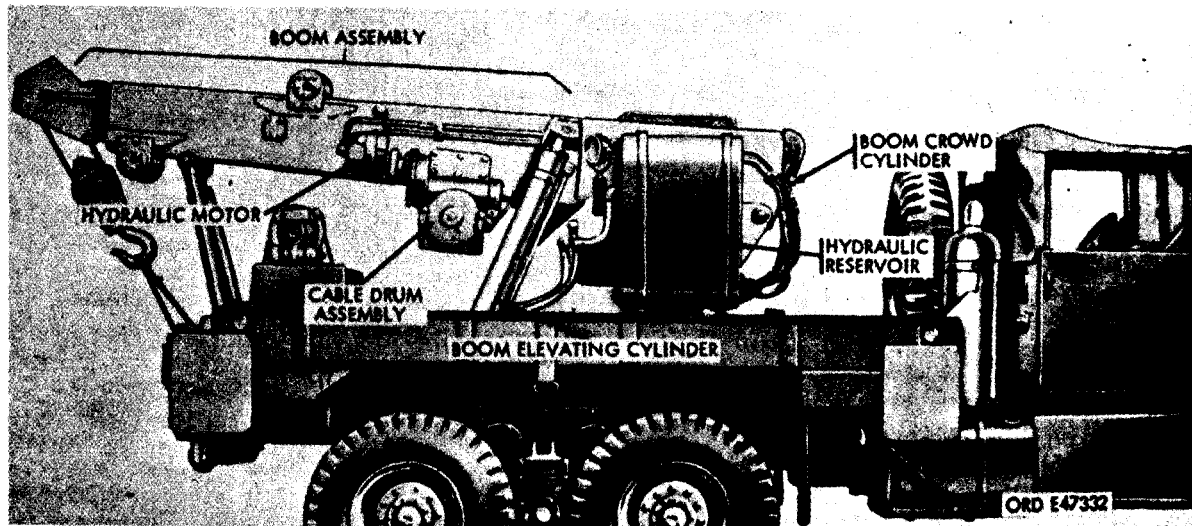

Figure 543. Crane and body assembly
e. Boom Assembly. The boom assembly (fig. 543) consists of the inner boom and outer boom which are telescoping tubular steel members having a rectangular shaped cross section, held together by the boom crowd cylinder. The rear end of the outer boom is pivoted on a pin which permits raising and lowering the front end of the boom assembly.
f. Boom Elevating Cylinders. The boom elevating cylinders (fig. 543) are vertically mounted on each side of the boom. These are single-acting types of cylinders whose pistons are extended by hydraulic pressure to elevate the boom. The pistons are retracted by the weight of the boom when the pressure is released.
g. Boom Crowd Cylinder. The boom crowd cylinder (fig. 543) is mounted horizontally inside the boom and shipper assembly. This is a double-acting ram and the piston works in either direction under hydraulic pressure to extend or retract the boom.
h. Boom Hoist Hydraulic Motor and Cable Drum Assembly. The boom hoist hydraulic motor and cable drum assembly (fig. 543) is bolted to the underside of the shipper assembly at the approximate middle. An automatic brake,
j. Hydraulic Reservoir. The hydraulic reservoir (fig. 543) is attached to the turntable frame. A bayonet-type oil level gage attached to the filler cap is installed in the top of the reservoir.